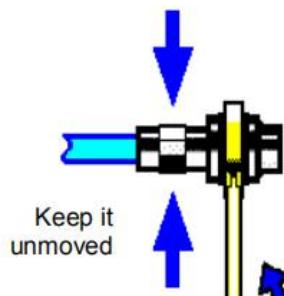

Fig. 2.5 Completion of final connection with a torque wrench
**Step 3.** As shown in Fig. 2.5, use a torque wrench to tighten the connectors and finish the connection; the torque wrench shall not exceed the starting break point and an auxiliary wrench can be used to prevent the connector rotating.